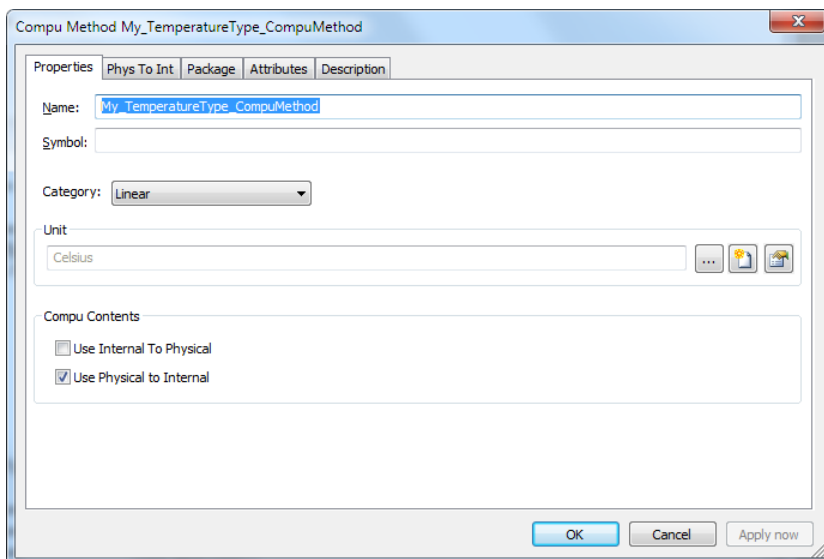

Figure 4-3 My_TemperatureType_CompuMethod
- > A computation method is created: "My_TemperatureType_CompuMethod" (see Figure 4-3):